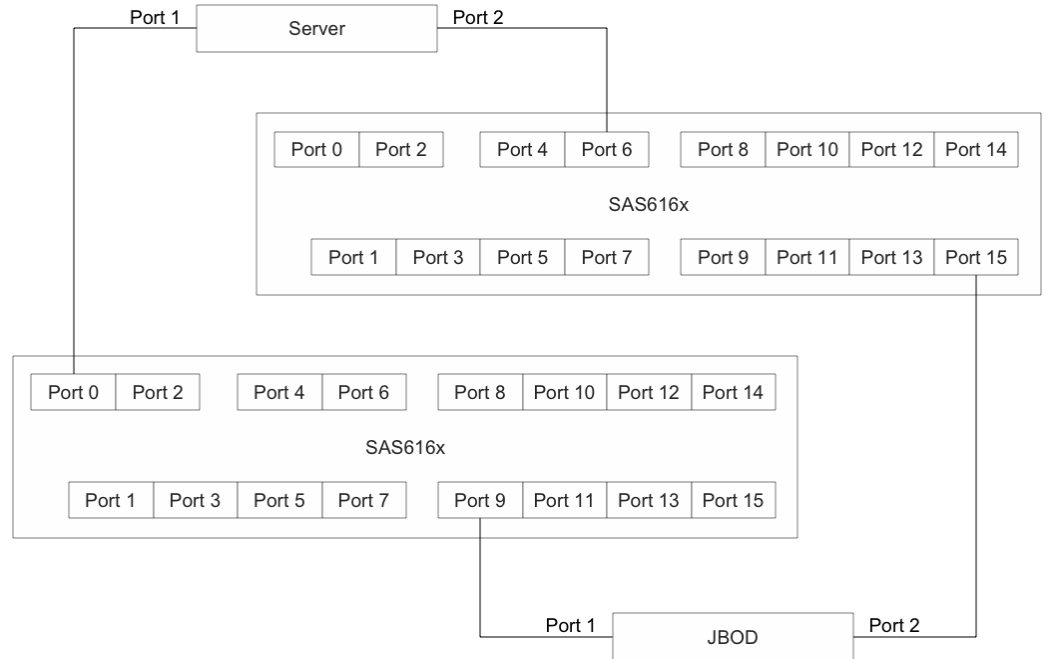

Figure 13: Example 4, High Availability
- To create a high-availability (failover) configuration, use one SAS6160 switch for each data path between the host and the shared storage. SAS allows for only a single path between endpoints. See Figure 13 for more information.
The fourth example (Figure 13) shows a server connected through two SAS6160 switches to two input connectors on a JBOD for a high-availability configuration.